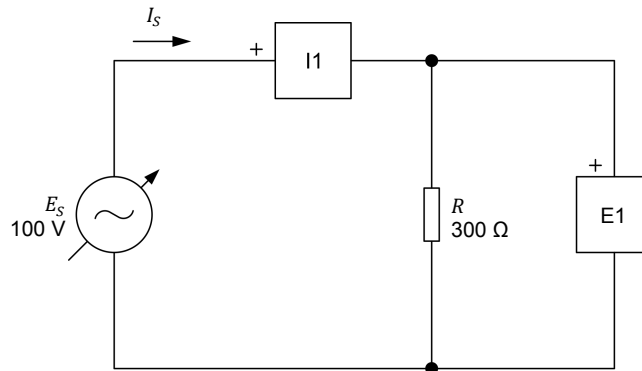

Figure 1-8. AC circuit containing a resistor.
7. Set up the circuit shown in Figure 1-8. Note the symbol used to indicate a variable-voltage ac source in this circuit. In order to obtain the resistance value indicated next to the resistor in Figure 1-8, make the necessary switch settings on the Resistive Load.